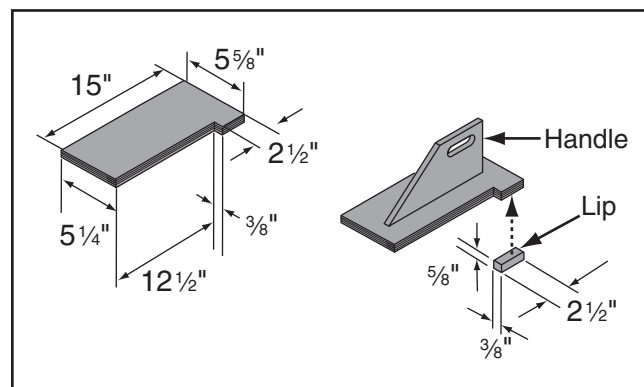

Figure 100. Push block dimensions and construction.
3. Using the $\frac{1}{2}$ " material you used in the previous steps, cut out pieces for the push block per the dimensions shown in **Figure 100**; for the handle, cut a piece 10" long by 5"–9" high and shape it as desired to fit your hand.